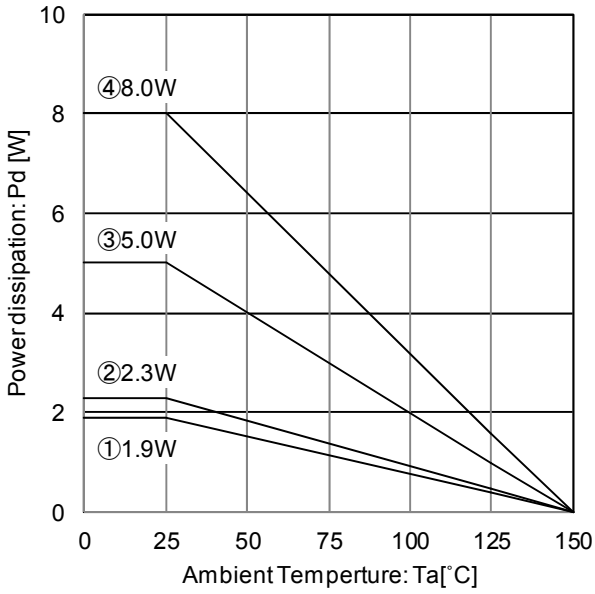

Figure 21. Package data of TO263-5F
Refer to the heat mitigation characteristics illustrated in Figure 21, 22 and the power dissipation under actual operating conditions should be taken into consideration and a sufficient margin should be allowed for in the thermal design. The amount of heat generated depends on the voltage difference across the input and output, load current, and bias current. Therefore, when actually using the chip, ensure that the generated heat does not exceed the Pd rating. Even if the ambient temperature Ta is at 25 °C, it is possible that the junction temperature Tj reaches high temperatures. Keep the whole operating temperature range within  $T_j \leq T_{jmax}$ .
- Calculation example : with TO263-5F package , Ta = 105 °C, VCC = 13.5 V, VO = 5.0 V, board ③ (Figure 21.)
In case of board ③ in Figure 21, Ta = 105 °C
At Ta = 105 °C with Figure 21 ③ condition, the calculation shows that 211 mA of output current is possible at 8.5 V potential difference across input and output.
- Calculation example : with Tc (bottom) = 80 °C, VCC = 13.5 V, VO = 5.0 V, Io = 200 mA, board ③ (Figure 21.)